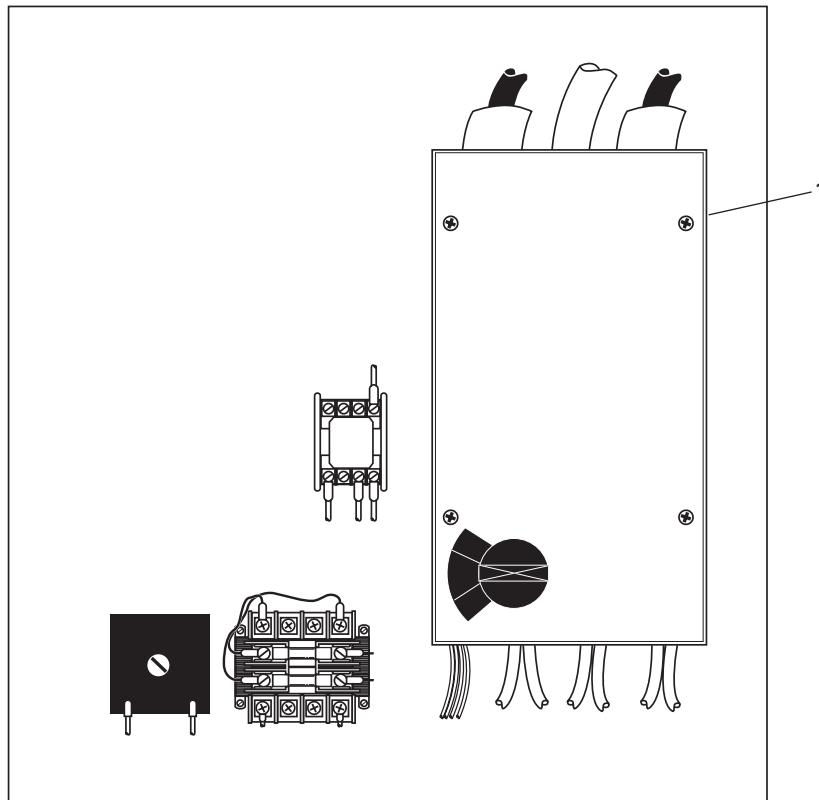

Figure 2. Main Disconnect Switch Input Wiring
4. Use a multimeter to check for voltage at the input side of the main disconnect switch (figure 2, item 1). If voltage is present, ensure that the proper circuit breaker is set to OFF, locked out, and tagged out (FM 55-502). If no voltage is present, continue with the applicable repair procedure.